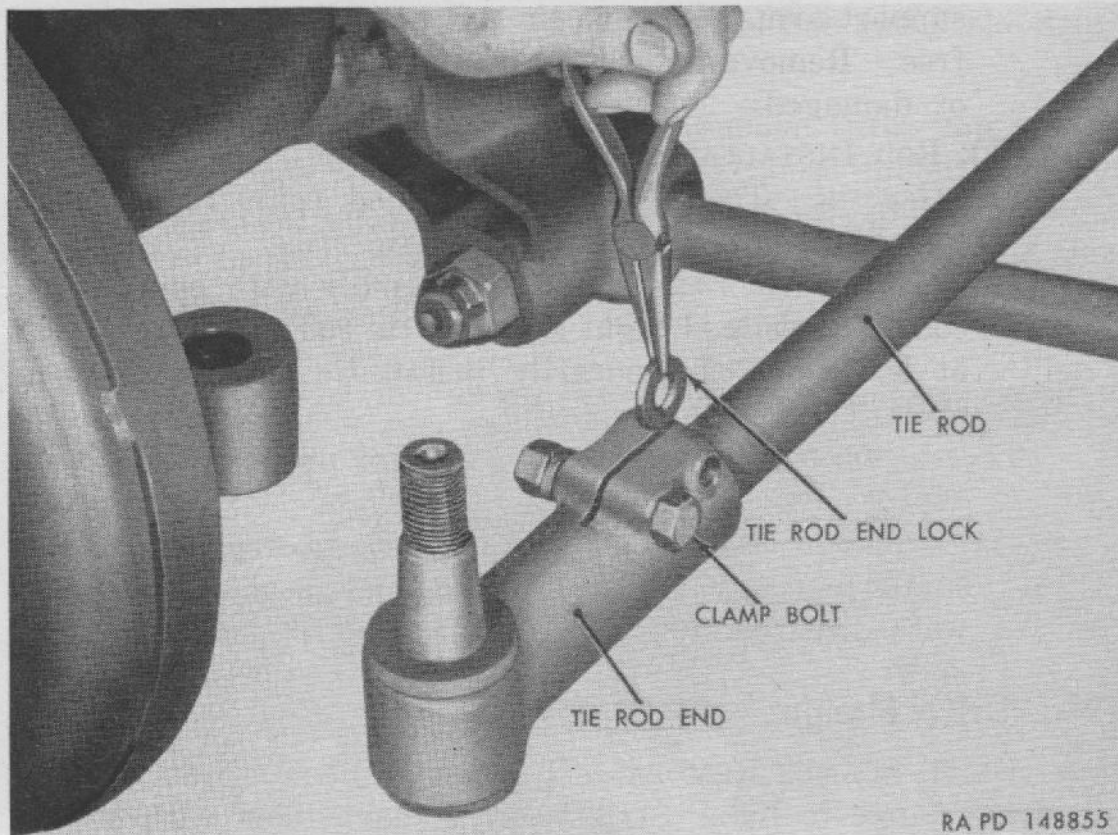

Figure 115. *Installing tie rod end lock.*
(2) *Adjust tie rod.* Loosen tie rod end clamp bolt nuts at each end of tie rod. Remove inner clamp bolt and tie-rod-in lock (fig. 115) at tie rod left end. Screw tie rod ends onto or off of tie rod as required to obtain correct toe-in.
- (4) *Install tie rod.* When adjustment is correct reinstall tie rod ends permanently to steering knuckle support. Install lock in tie rod left end (fig. 115), making certain that lock is seated in keyway in tie rod. Aline lock with bolt hole in tie rod end; then install clamp bolt and nut. Tighten two clamp bolt nuts at each tie rod end.
- (1) *Position vehicle.* Place vehicle on a level surface and apply parking brake. Place a jack under front axle and raise enough to take weight of vehicle off front wheels.
- (2) *Remove tie rod.* Loosen two tie rod end clamp bolt nuts at each end of tie rod, also remove inner clamp bolt and lock (fig. 115) at tie rod left end. Remove tie-rod-end-tapered-pin nut at each end of tie rod. Tap steering-knuckle-support arm a sharp blow with hammer as downward pressure is applied to tie rod end with a pinch bar. Move each tie rod end down and at same time twist forward until free from steering-knuckle-support arm. Remove tie rod end when both ends are free. Remove and discard rubber seals if deteriorated or damaged.